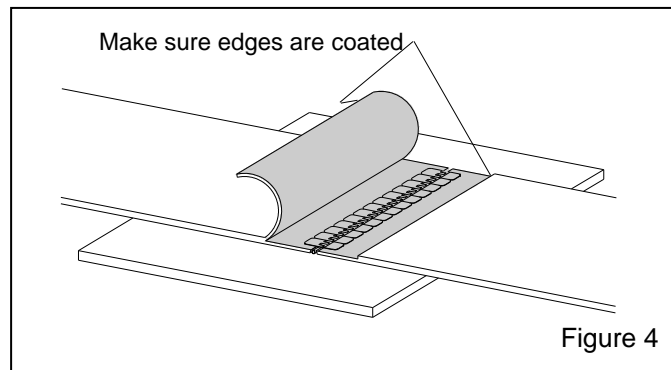

Figure 4
4.3.7.1 Follow mixing instructions on the cement label and mix enough cement and hardener to apply a coat to the shaded areas in Figure 4.